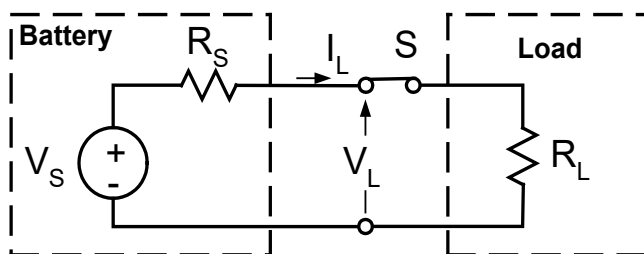

Figure 2.4
B. For the circuit drawn in Figure 2.4, answer the following questions given $V_S = 1.5\text{V}$, $I_L = 7.5\text{mA}$ and $V_L = 1.425\text{V}$.
C. Model the circuit in Figure 2.4 in SPICE using the value of R_S and R_L calculated above in B.1 and B.2 and the value given for V_S . Do your SPICE results match your calculations? If not, you should recheck your calculations and your simulations. Print a screenshot of your SPICE schematic with the results of your operating point simulation shown and hand it in as part of your pre-lab. See Appendix I in the lab manual for a brief introduction to SPICE simulation using LTspice. **Note:** You do not need to simulate the switch in SPICE. Just connect a wire between the two resistors.